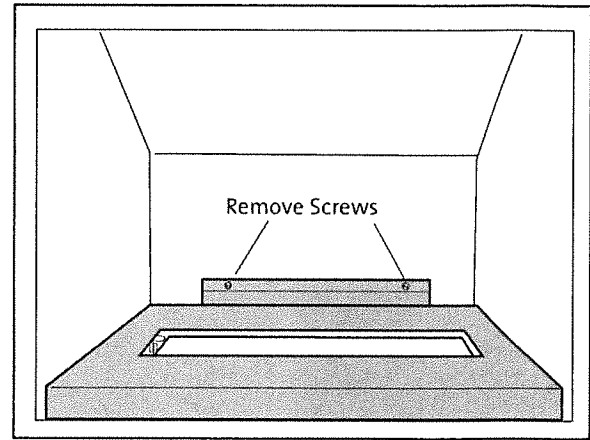

Figure 29. Silhouette Burner Skirt removal.
Silhouette Burner: The Burner Skirt will first need to be removed before the burner itself can be removed. See fig. 29.
3. Remove the Burner Skirt by removing the two sheet metal screws at the back wall. See fig. 29, page 19. The skirt simply lifts out.